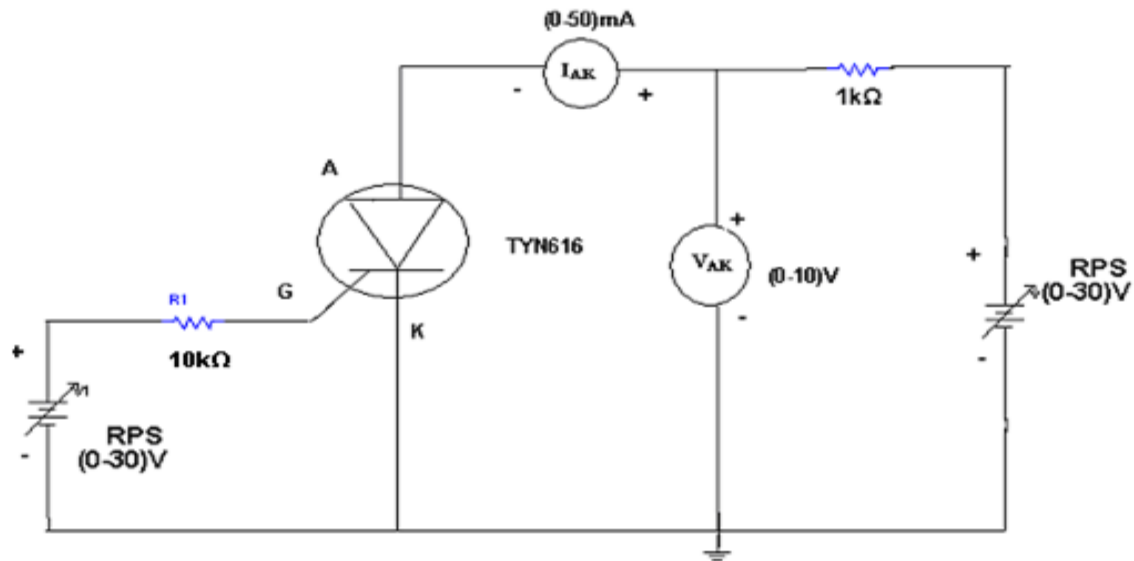

Figure 2: Circuit Diagram of SCR characteristics
1. Connections are made as per figure 2.